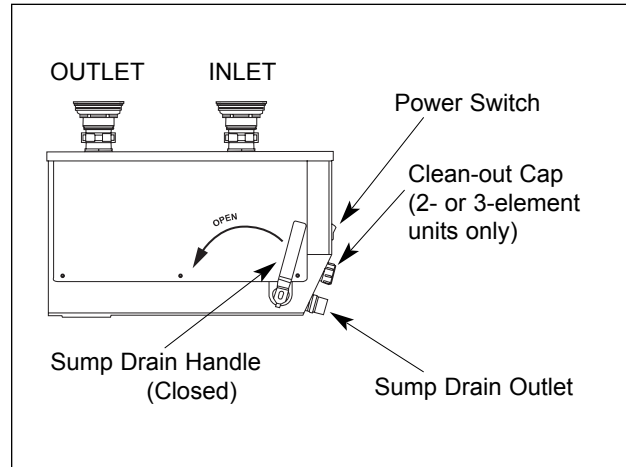

Figure 6. Hydro-Heater Side View
1. Make sure clean-out cap(s) (2-3 element units only) are securely tightened. See Figure 6.
2. Close sump drain by moving handle all of the way forward **until it stops**. See Figure 6.